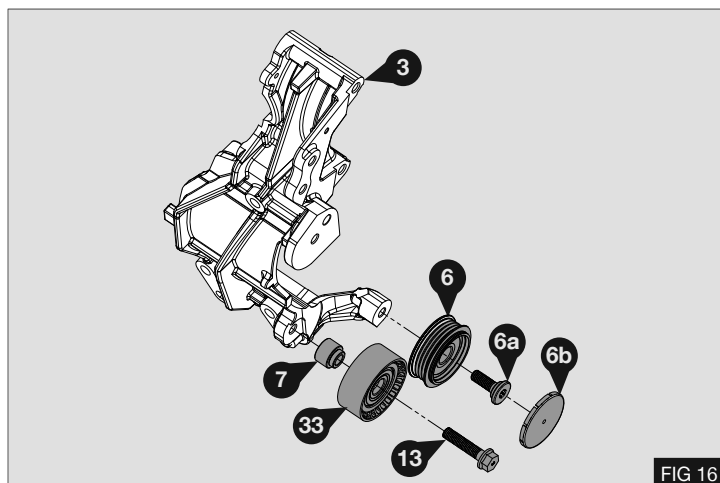

FIG 16
1. Assemble pulley (6) onto bracket (3) using Bolt (6a) and pulley cap (6b) - Fig 16
2. Fit idle pulley (33) using supplied bolt M10x45 (13) and spacer (7) - Fig 16